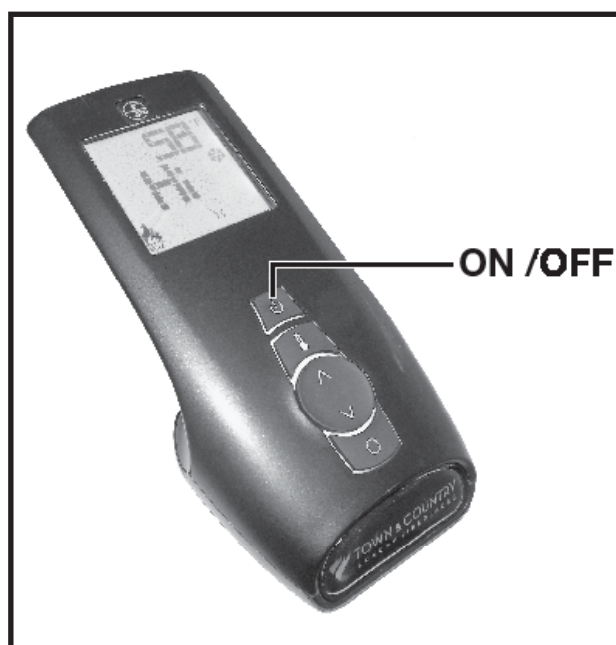

Figure 54: Remote handset.
3. Press and release the **on/off** button (Figure 54) on the remote handset (within 60 sec.)